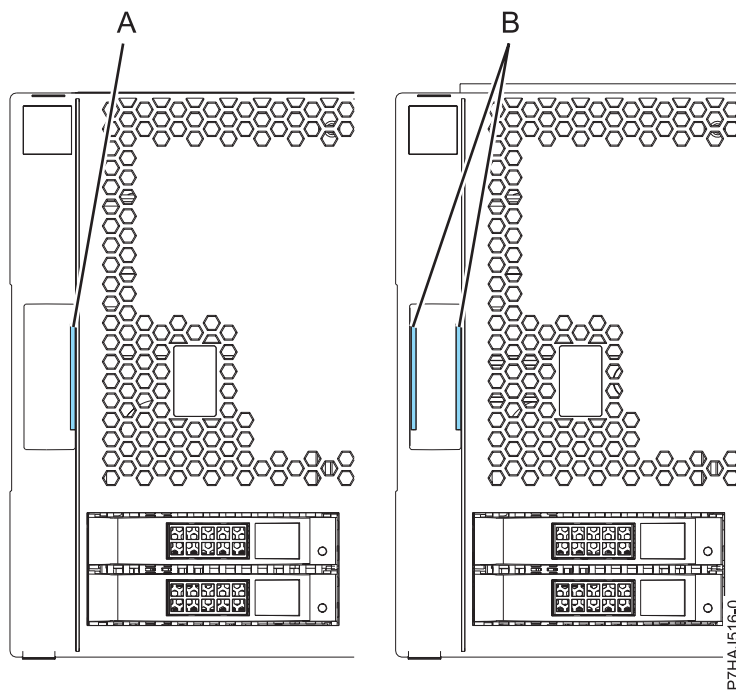

Figure 7. Identifying the older and newer covers
**Note:** The older covers that were shipped before 1 March 2011 can be identified by a single blue stripe (A) on the cover assembly latches. Newer covers that were shipped after 1 March 2011 have two blue stripes (B) on the cover assembly latches. See Figure 7.